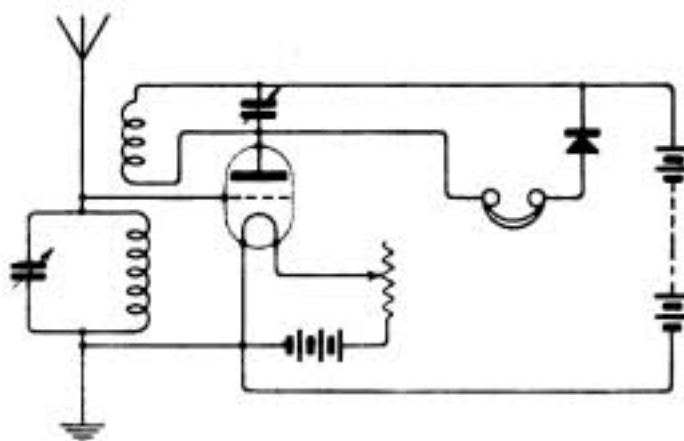

Fig. 8.
"M.P." (South Africa).—(1) This coil will tune the aerial to about 3,500 ms. (2) We should recommend the use of honeycomb coils for this purpose, but failing this, a coil, 12" × 9", wound with No. 28, would give the desired result if used with a parallel capacity. The closed circuit coil could be 12" × 8" of No. 32. (3) and (4) The best arrangement of apparatus would be as in the diagram (Fig. 8).